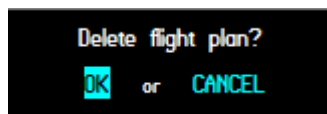

Figure 7.20
6.3 click on the ENTER key to display a window prompting to perform the function or cancel (Figure 7.20).